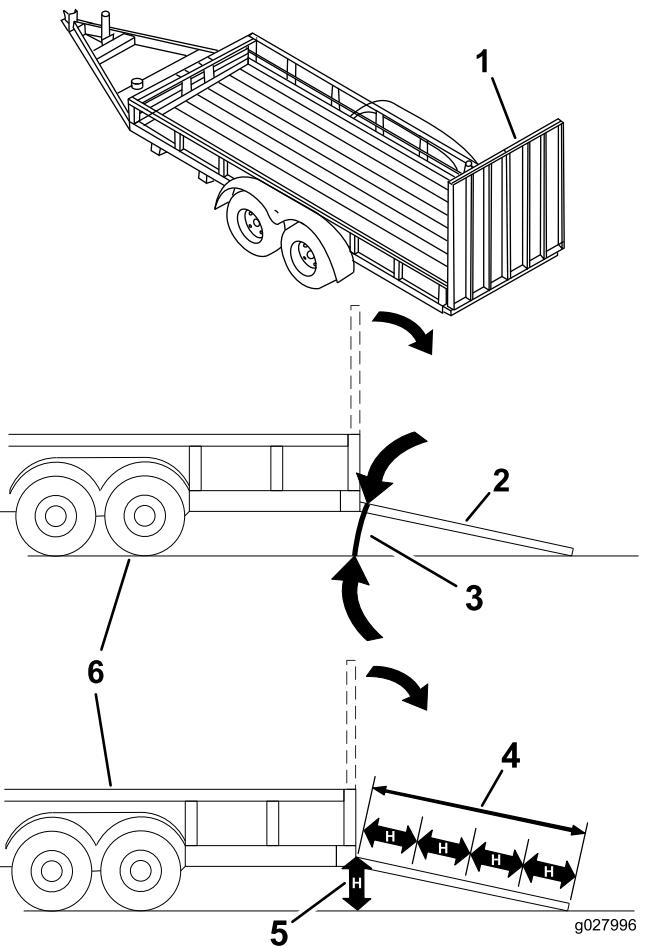

Figure 41
**Loading a machine onto a trailer or truck increases the possibility of tip-over and could cause serious injury or death (Figure 41).**
3. Lower the ramp, ensuring that the angle between the ramp and the ground does not exceed 15 degrees (Figure 41).
1. Lower the ramp, ensuring that the angle between the ramp and the ground does not exceed 15 degrees (Figure 41).